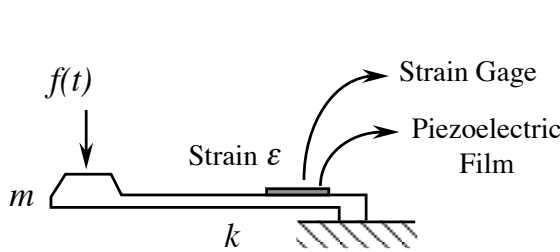
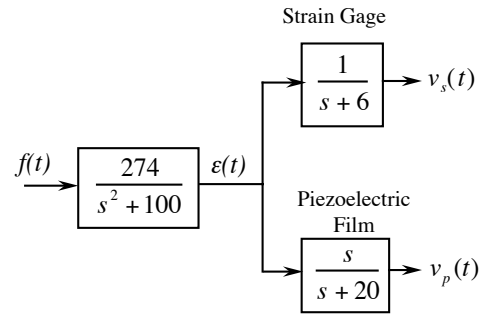

Figure 2: A load cell to measure force  $f(t)$
Figure 3: Block diagram of the load cell
2. This is an exam problem of Spring 2008. Figure 2 shows the setup of a load cell consisting of a mass and a cantilever spring. A force  $f(t)$  applied at the mass deflects the beam resulting in a normal strain  $\epsilon(t)$ . By measuring the strain  $\epsilon(t)$ , one can determine the force  $f(t)$  applied. The strain  $\epsilon(t)$  can be measured in two ways. One is through a strain gage, and the other is through a piezoelectric film. Figure 3 shows a block diagram of the load cell. The mass and the cantilever spring form a transfer function